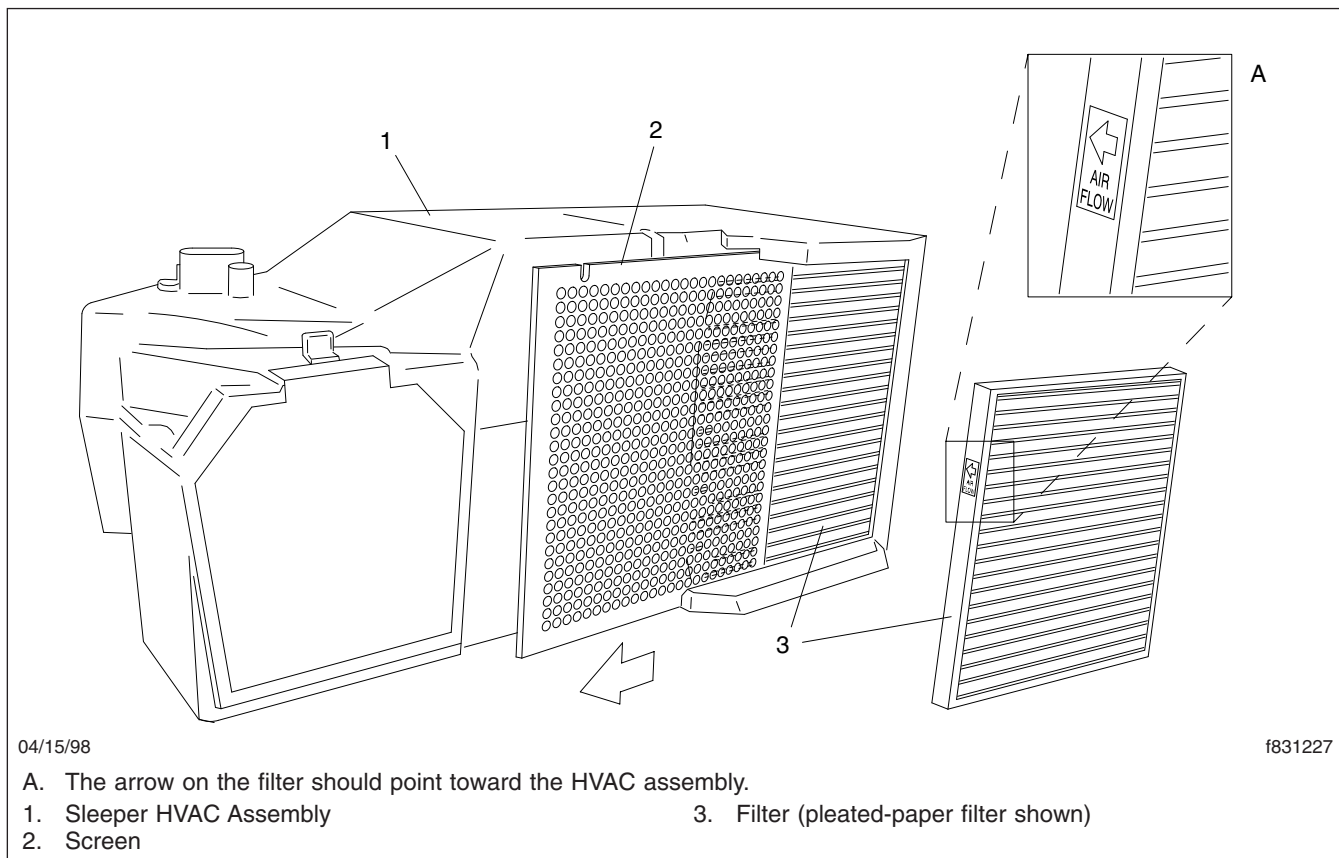

Fig. 7, Sleeper HVAC Assembly, Water-Valve Controlled
3. Slide the screen off the sleeper HVAC assembly. See **Fig. 7**.
The pleated paper filter has an arrow on the edge of the filter that should point toward the heater assembly. See **Fig. 7**. The foam filter can be installed in any direction.